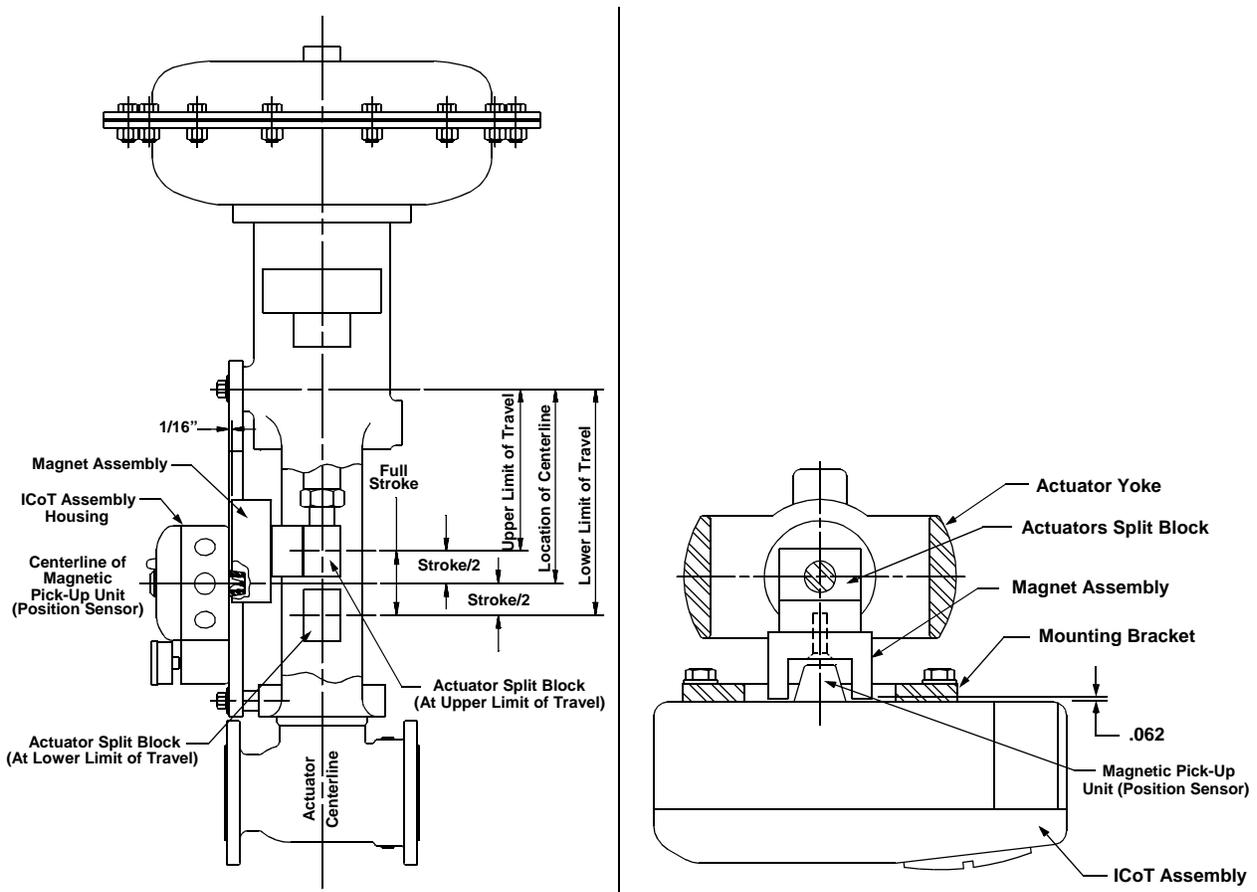

Figure 3-5
Step 3. Mount the positioner to the mounting bracket. The positioner should be mounted so the magnetic pick-up unit of the positioner is centered between the limits of the magnetic assembly's stroke. After mounting the positioner, the magnet assembly should be within 1/8" from the back of the positioner (1/16" is ideal), (See Figure 3-5).